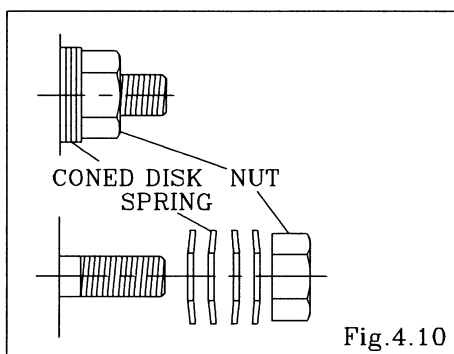

Fig. 4.10
- Make sure that direction the coned disk springs. [Fig.4.10]